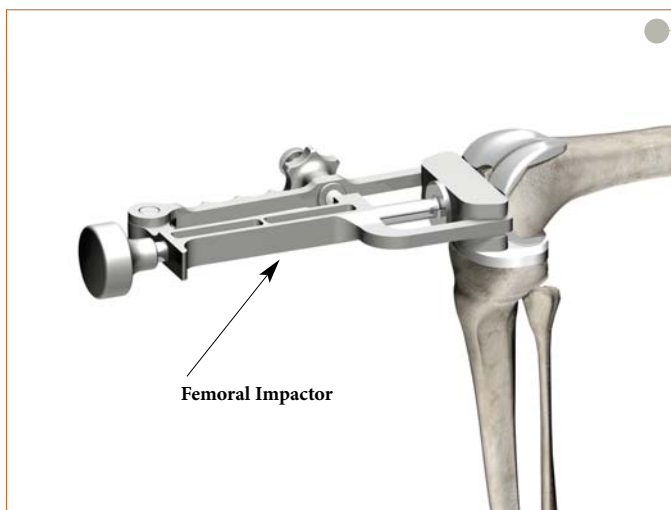

Figure 76
- ▶ Assemble the appropriate size of left or right femoral implant onto the Femoral Impactor/Extractor in the same manner as the femoral trial. See Appendix 2 for Scorpio NRG PS/CR interchangeability chart. Place the implant on the prepared femur and impact it until fully seated (**Figure 76**). The Impactor/Extractor maintains accurate position of the implant during implantation.